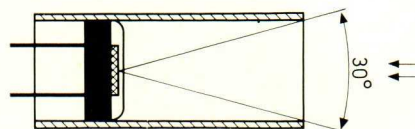

Fig. 3.
- Put small black cylinders around the lamp and the LDRs, thus preventing light other than that coming from the direction of the object from reaching the LDRs. The best results are obtained with cylinders as sketched in Fig. 3. Make sure that the rear of the LDRs is painted black.